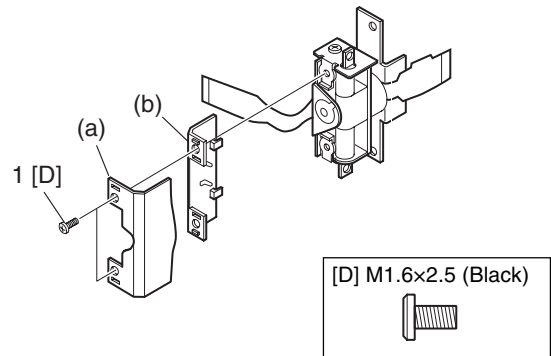

Fig. 5-3-19 Fulcrum Cover U and Fulcrum Cover B
(15) Fulcrum Cover U and Fulcrum Cover B (Fig. 5-3-19)